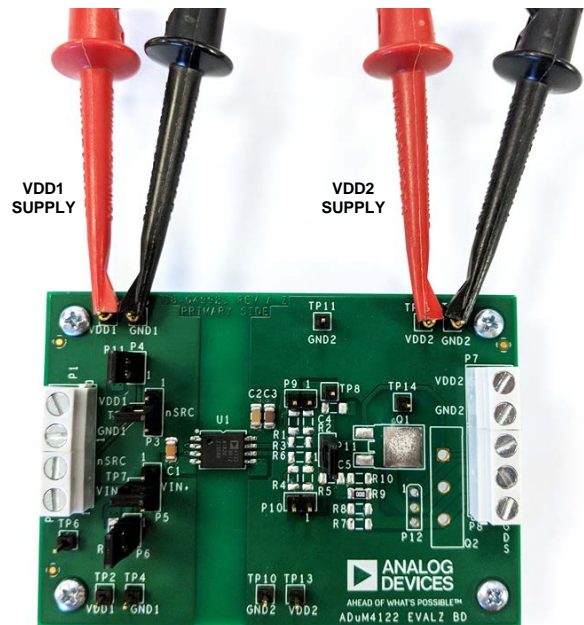

Figure 7. Power Supply Connections
- Connect the input V_{DD1} supply (3.3 V to 5.5 V) to the V_{DD1} and $GND1$ pins (see Figure 7).
- Connect the input V_{DD2} supply (4.5 V to 35 V) to the V_{DD2} and $GND2$ pins (see Figure 7).